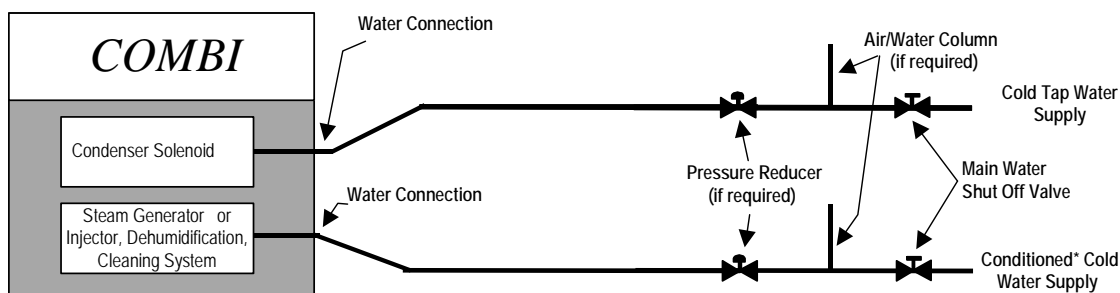

Figure 2-11 Cleveland Range Separate Water Supply Arrangement
- 7) If water supply fails to meet the requirements shown in table 2-3 then use the Separate Feed Water Supply Arrangement shown in figure 2-11.